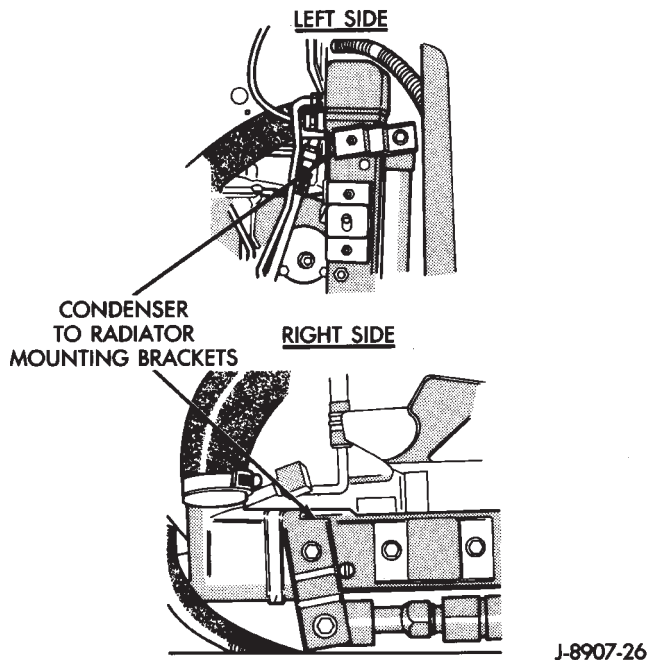

Fig. 33 Condenser-to-Radiator Mounting Brackets—XJ with 4.0L 6-Cylinder Engine
(14) If equipped with air conditioning, separate radiator from condenser by removing condenser-to-radiator mounting brackets (Fig. 33).
(2) If equipped with air conditioning, attach condenser to radiator with mounting brackets (Fig. 33).
(3) Install radiator upper crossmember and four mounting bolts.
(4) Install radiator upper crossmember-to-isolator nuts. Tighten nuts to 10 N·m (86 in. lbs.) torque. If isolator-to-radiator nuts had been removed, tighten them to 5 N·m (47 in. lbs.) torque.
(5) Install hood latch striker. Note previously marked position.
(6) Connect radiator upper and lower hoses.
(7) If equipped, connect automatic transmission fluid cooler lines. Refer to Group 21, Transmissions for procedures. If equipped with remote cooler, attach cooler line to bracket at bottom of radiator.
(8) Install electric cooling fan (if equipped). Insert alignment tabs at bottom of fan shroud into slots in